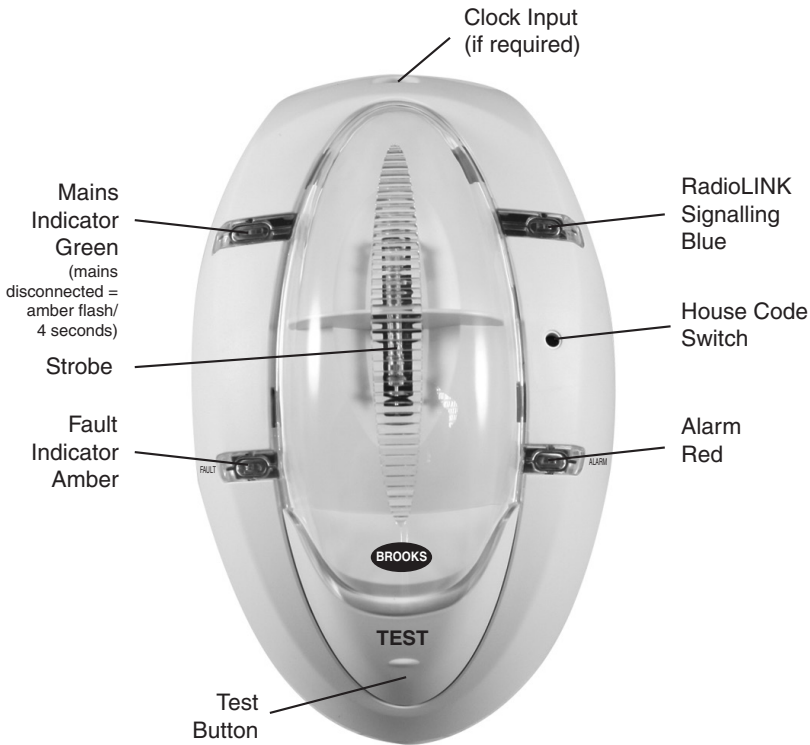

Figure 4
3.1.2 Press the House Code switch on all units – see individual instruction leaflets for switch locations. On the Strobe Module, the House Code switch is pressed by means of small screwdriver (or similar, diameter of top less than 3mm), through the access hole on the top of the unit – see figure 4.
Check the Strobe Module indicator lights as follows (see figure 4)
“Clock Input” Socket: A suitable alarm clock signal (with a 5 to 24 Volts AC or DC output – electrically isolated from the mains supply) can be connected to this input socket with a 3.5mm mono jack plug. (see figure 4) When the alarm clock triggers, the vibration pad turns on continuously (i.e. it is not pulsed) to wake the person, but the internal strobe or auxiliary outputs are not activated. This lets the user know it is a wake-up call and not a fire. Therefore the user needs only one vibration pad under their pillow or mattress – rather than two, one for the Fire Alarm and one for the alarm clock.